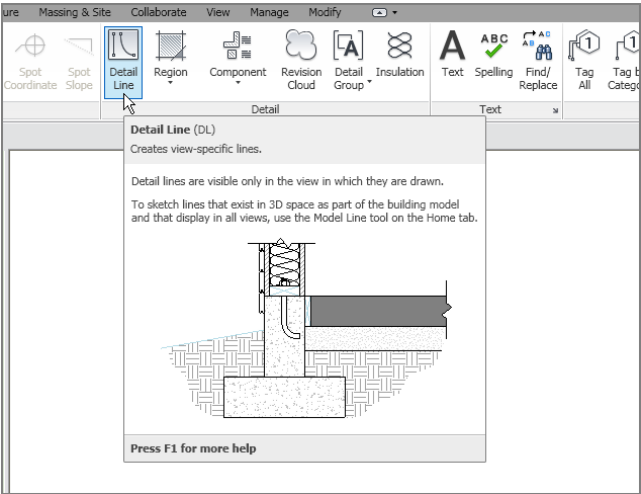

FIGURE 11.51: Click the Detail Line button on the Annotate tab.
1. On the Annotate tab, click the Detail Line button, as shown in Figure 11.51.